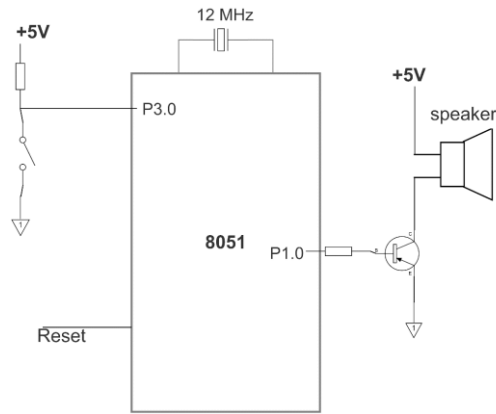

Figure 2B
- 1A.** Discuss how External Access (EA) is used to select between internal and external program memory. (04)
- 1B.** Write an 8051 ALP to find the address of given byte '64H' in an array of numbers stored in external RAM locations starting at address 2018H. Size of the Array is store in memory location 2017H. If the number 64H is found in the array, then display the address of first occurrence in P0 and P1 respectively and store the count of such occurrences in memory location 2000H. If the number 64H is not found in the array, then display AAH in both P0 and P1 as an error code. Also include program comments appropriately. (06)
- 2B.** 8051 microcontroller-based fire alarm system clocked at 12MHz is connected to a loud speaker through transistor based amplified and is controller using a switch as shown in **Figure 2B**. Write an 8051 ALP to sound the loud speaker at a frequency of 500Hz when the switch is turned ON. Use Timer 1 in mode 2 to obtain the required delay. (05)